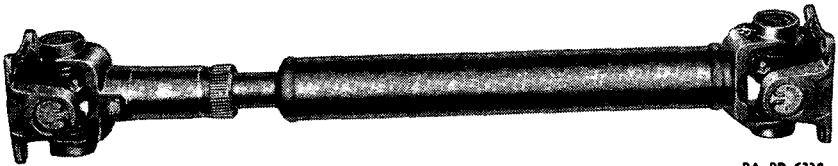

FIGURE 68.—Front axle propeller shaft assembly.
25. Description (figs. 68 and 69).—The propeller shafts are of the two joint, needle bearing type.